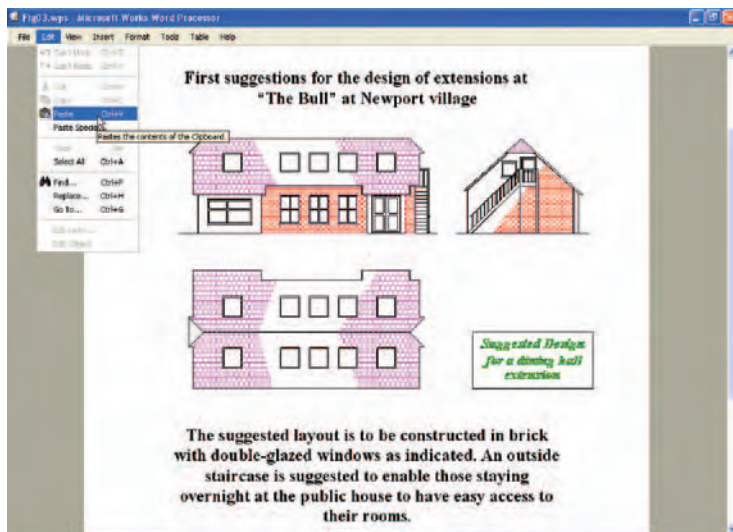

Fig. 10.2 Example – Copying and Pasting
First example – Copying and Pasting (Fig. 10.2)
3. Open **Microsoft Word** and *click* on **Paste** in the **Edit** drop-down menu (Fig. 10.2). The drawing from the **Clipboard** appears in the **Microsoft Word** document (Fig. 10.2).